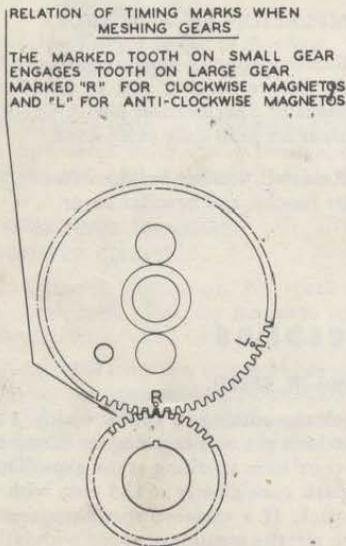

Figure 13—Relation of Timing Marks When Meshing Gears
(1) There are two breaker cam keyways located on the magnet shaft extension of the standard rotating magnet used in the VMN7D, VMN7DF5 and VMN7DF magnetos. One keyway is marked (R) and the other (L). Place the cam key in keyway marked (R) for clockwise rotation or in keyway marked (L) for counterclockwise rotation.
(2) Secure cam in position using keyway marked (D) for clockwise rotation and keyway marked (G) for counterclockwise rotation.
(3) Recharge magnet using the No. 11-1301 magnet charger which operates on 110 volts dc or the No. 11-1302 magnet charger which operates on 36 volts dc. Clean and inspect the ball bearings. If satisfactory, repack with Specification No. AN-G-5 grease. Make sure that all chips or foreign particles have been removed from the magnet. Place a light coating of oil on the pole pieces of the magnet.
(4) Place the rotating magnet in the front end plate being sure to mesh the chamfered tooth of the small distributor gear with the tooth on the large distributor gear marked (R) for clockwise and (L) for counterclockwise rotation. (See figure 13.) Place the housing over the magnet and secure it to the front end plate with the two screws, two lock washers, and four nuts.